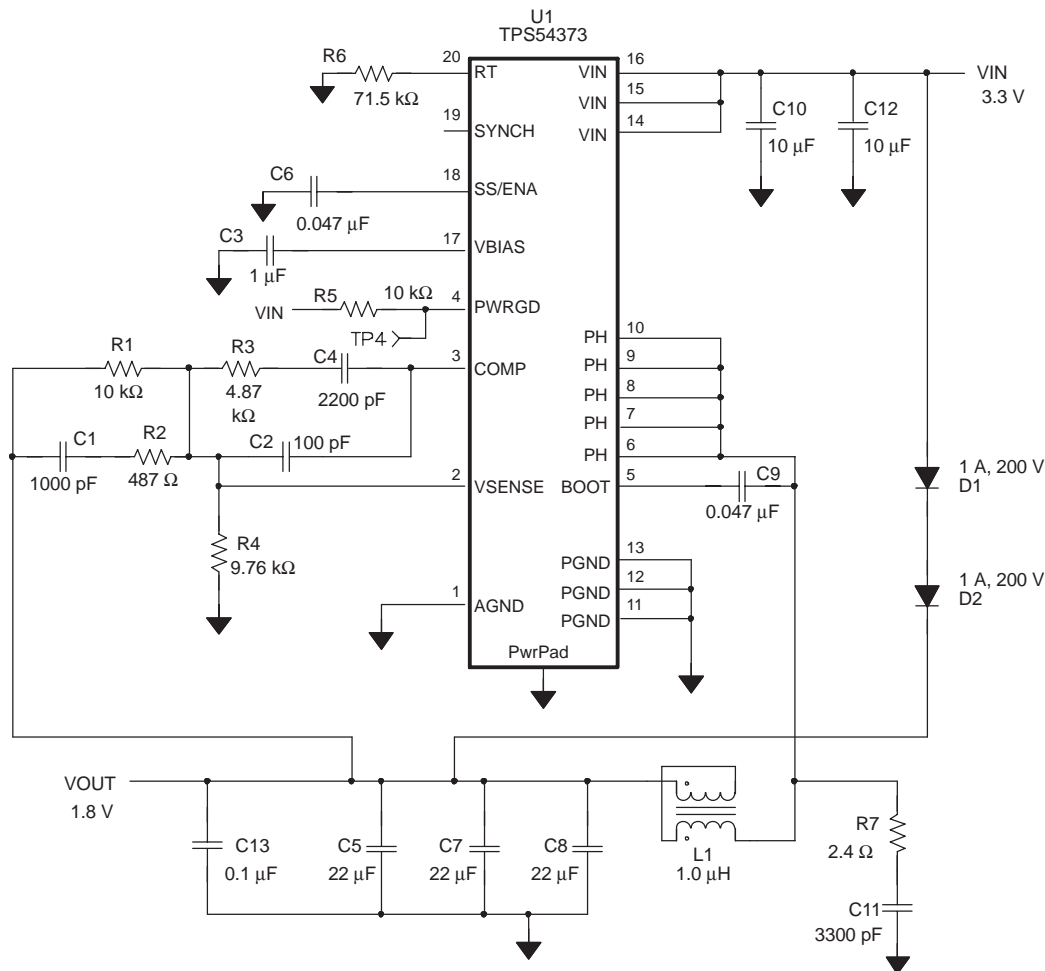
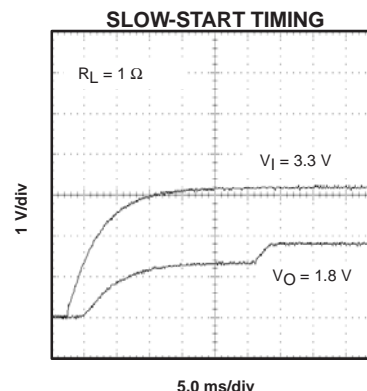

Figure 10. Application Circuit
Figure 19
(1) Specified by design
(2) Static resistive loads only
(3) Specified by the circuit used in Figure 10
(4) Matched MOSFETs low-side r_{DS(on)} production tested, high-side r_{DS(on)} specified by design
Figure 10 shows the schematic diagram for a typical TPS54373 application. The TPS54373 (U1) can provide up to 3 A of output current at a nominal output voltage of 0.9 V to 3.3 V, and for this application, the output voltage
Data shown is for the circuit in Figure 10 with precharge disabled (D1 and D2 removed) except for slow-start timing of Figure 19. All data is for $V_I = 3.3\text{ V}$, $V_O = 2.5\text{ V}$, $f_s = 700\text{ kHz}$ and $T_A = 25^\circ\text{C}$, unless otherwise specified.